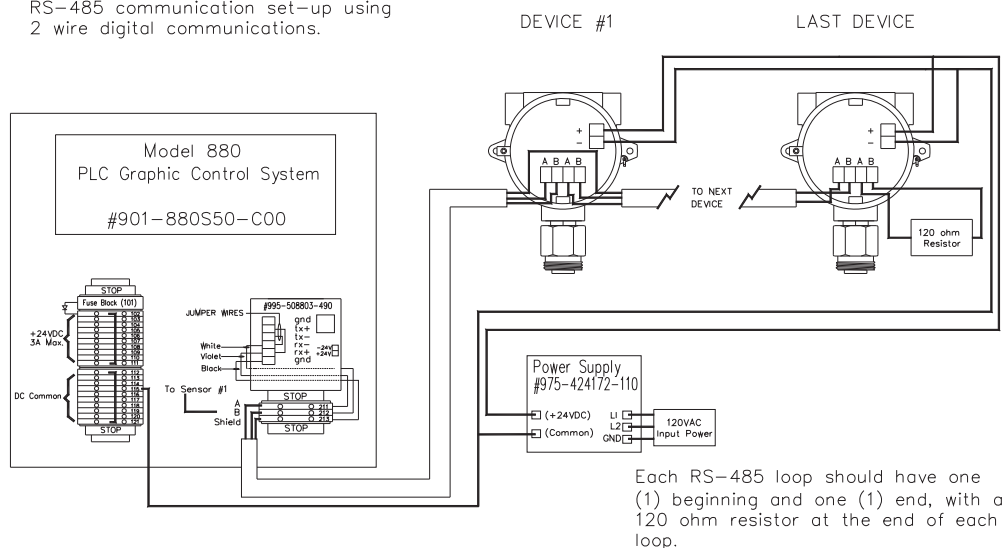

Figure 38 Recommended RS-485 communications set-up
Figure 38 shows a typical RS-485 communication setup using 2-wire digital communication. Each RS-485 loop should have (1) beginning and (1) end, with a 120-ohm resistor at the end of each loop.